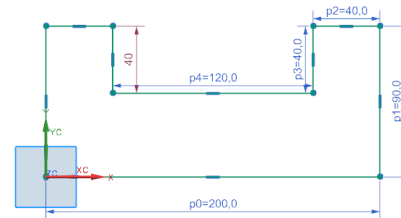

Figure 2-56 Sketch after drawing the lines
14. Press the ESC key twice to exit the **Profile** tool. The sketch after drawing the lines is shown in Figure 2-56.